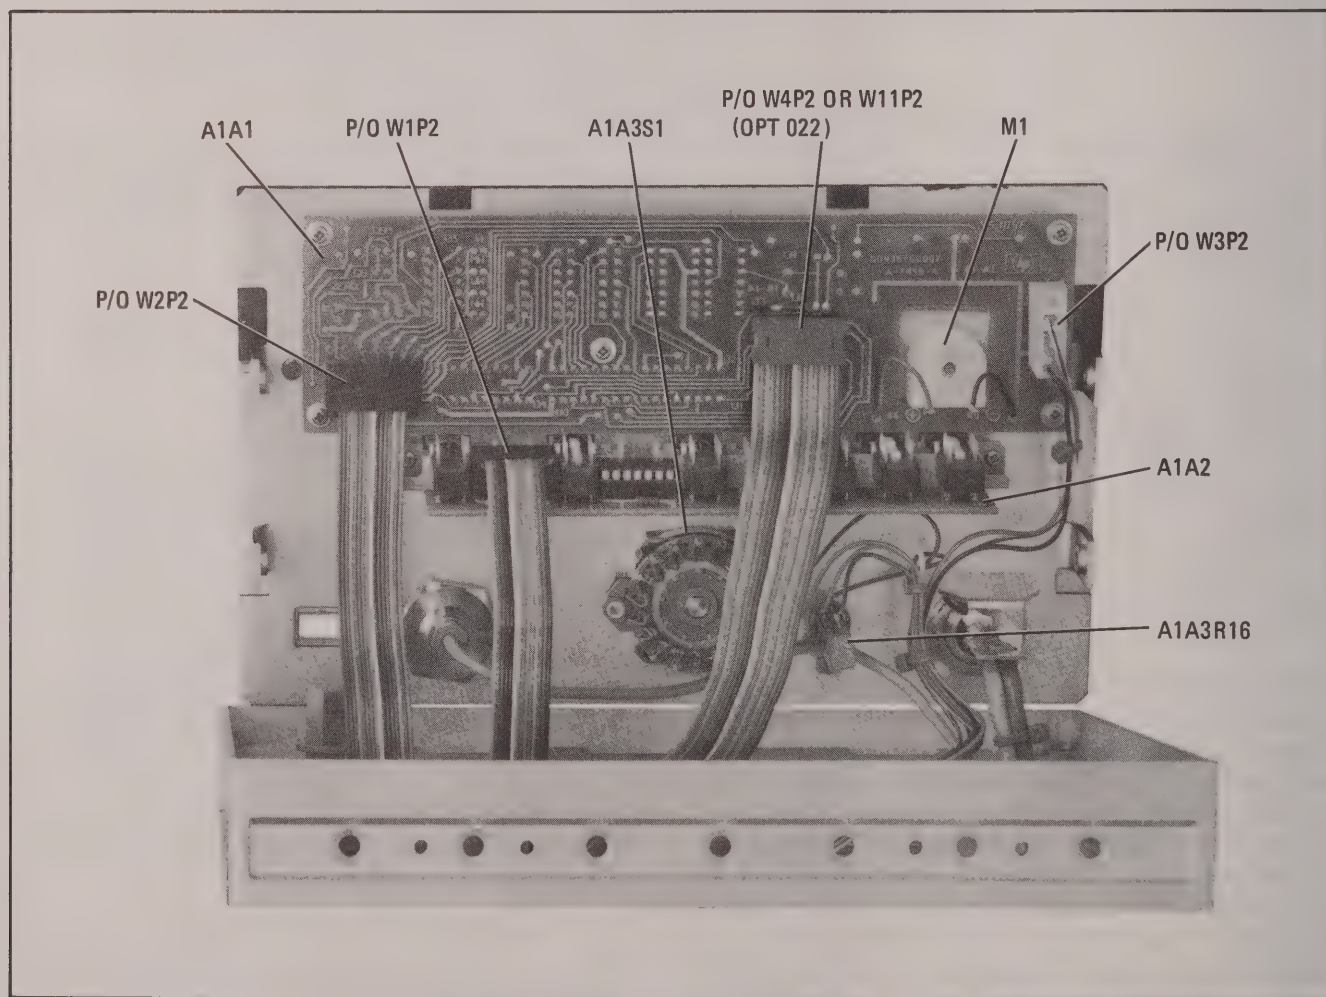

Figure 8-2. Front Panel Removal
- d. Carefully push front panel from behind to free it from the front frame (see Figure 8-2).